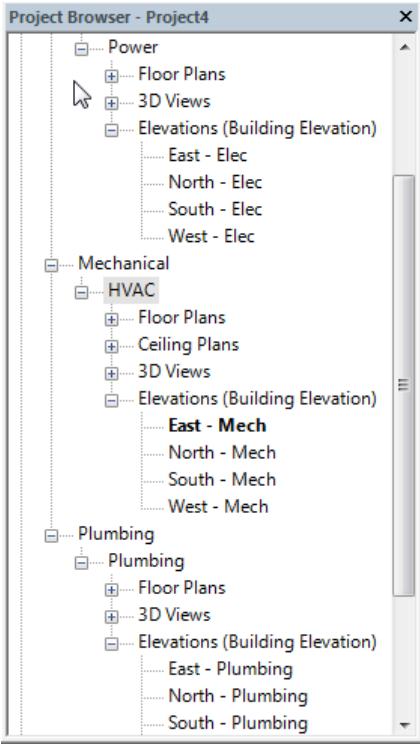

Figure 3-2 The **Project Browser** displaying various elevation views for different disciplines
*In Revit MEP, you can view the levels in the elevations or section views displayed in the **Project Browser** under each discipline such as Mechanical, Electrical, or Plumbing, refer to Figure 3-2.*